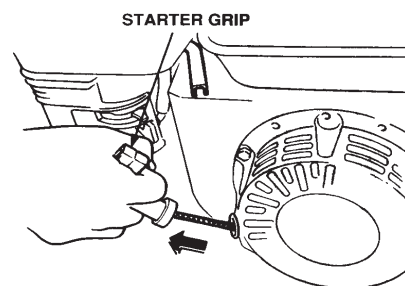

Figure 12. Starter Grip
6. Grasp the starter grip (Figure 12) and slowly pull it out. The resistance becomes the hardest at a certain position, corresponding to the compression point. Pull the starter grip briskly and smoothly for starting.